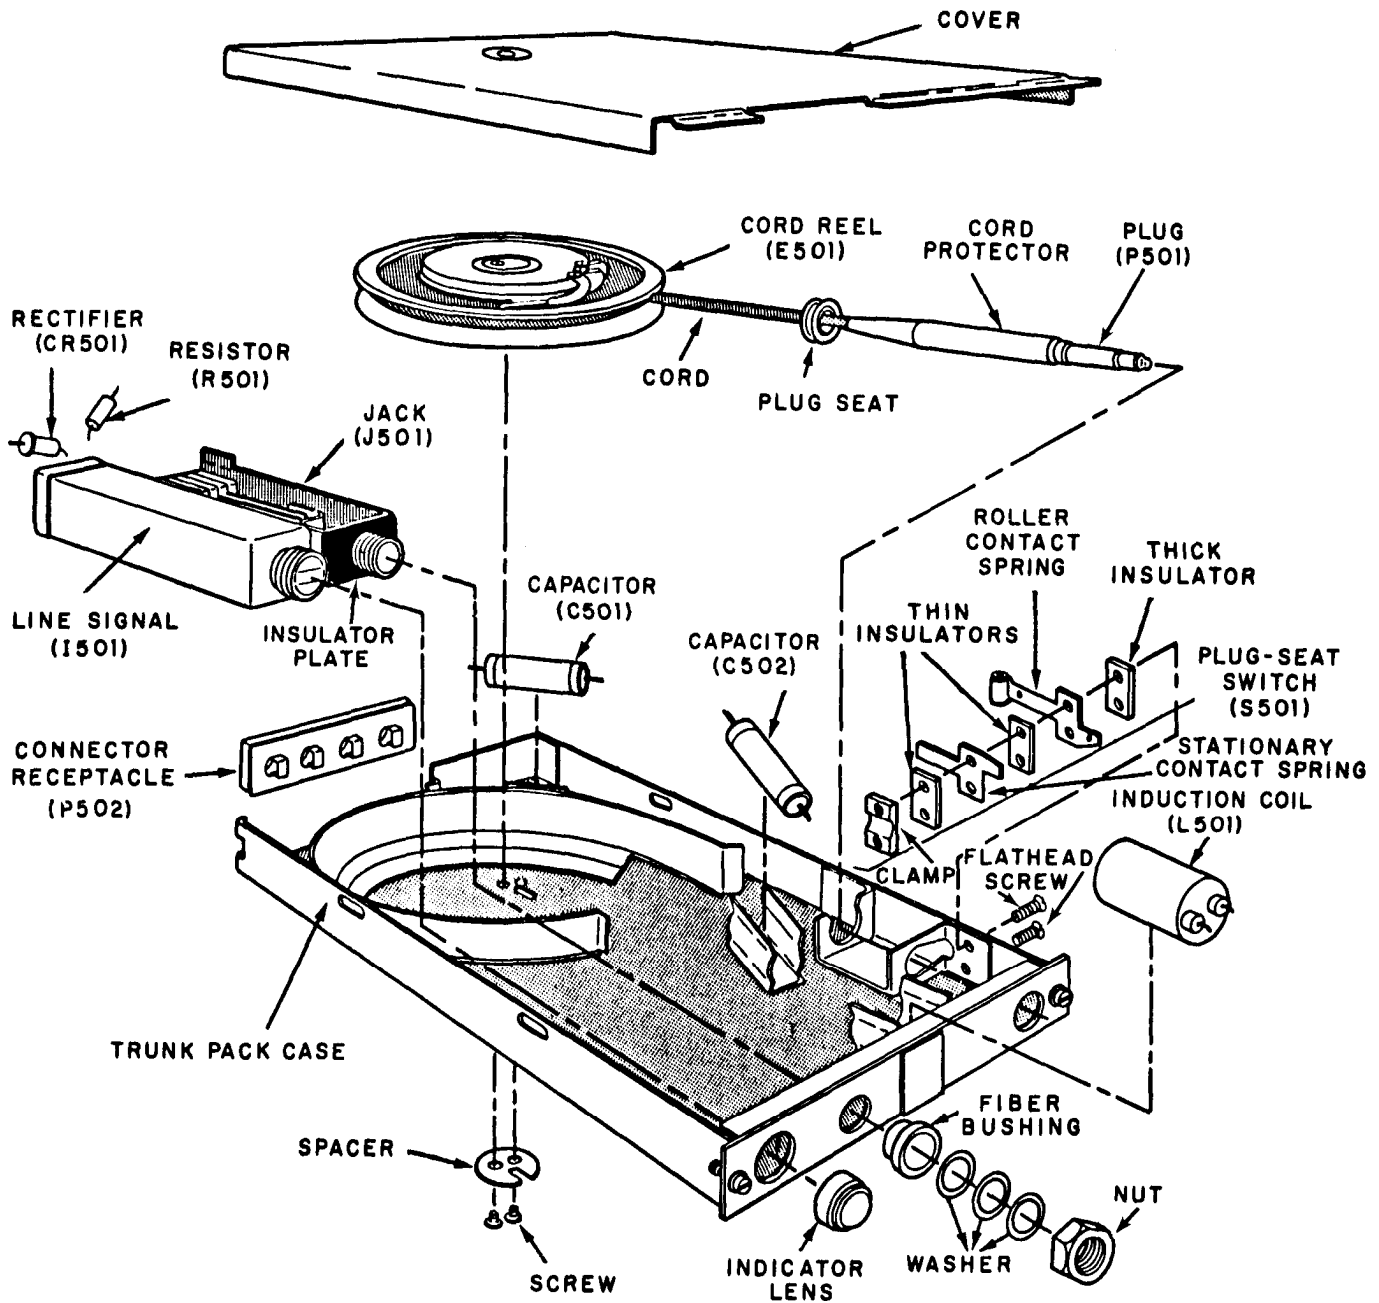

Figure 2-2. Telephone Circuit, Trunk Jack TA-326/PT, Exploded View.
- (1) Connect the positive rectifier lead to the terminal on line signal I201.
- (2) Connect the other rectifier lead to the ring break contact on line jack J201.
- (3) Slide the rectifier into the retaining clip, and dress the wiring.
**2-18. Removal and Replacement of Trunk Pack Plug Seat Switch S501***a. Removal (fig. 2-2).*
- (1) Pull a short length of cord off the cord reel, and slide the plug seat out of its retaining bracket.
- (2) Slide the card and plug out of the hole in the front of the line pack.
- (3) Remove the two screws that hold switch S501 together, and separate and remove the switch pieces.